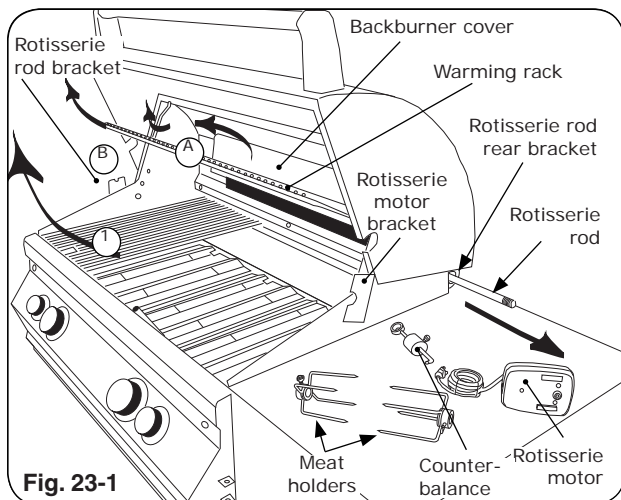
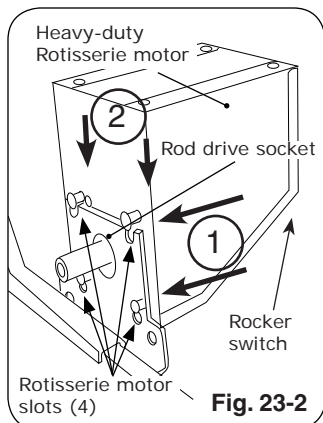
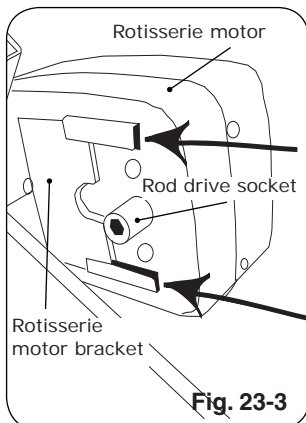

Fig. 23-1
Fig. 23-2
Fig. 23-3
2. Slide rotisserie motor fully onto motor bracket (right side, Fig. 23-1, Fig. 23-2 and Fig. 23-3).
3. Remove rotisserie rod from rear bracket (Fig. 23-1).